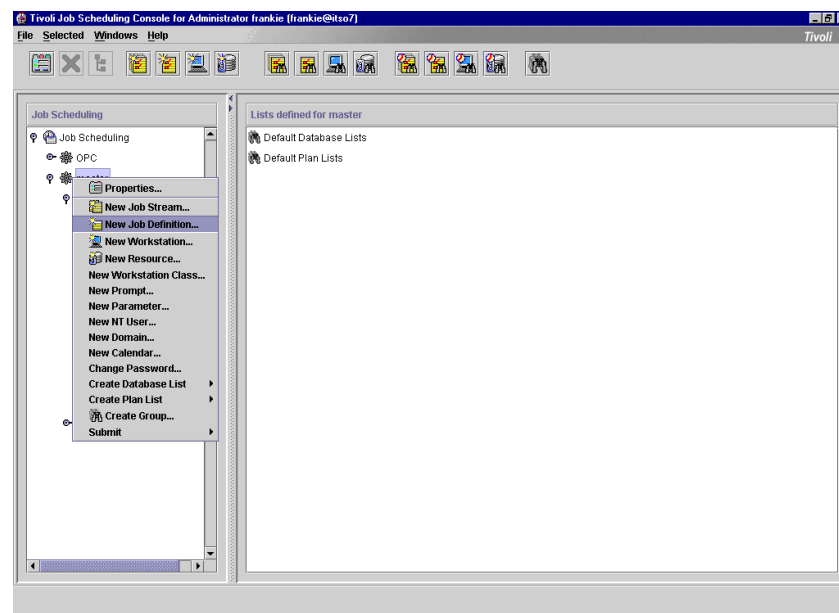

Figure 208. create new job definition
1. Create a new job definition for TWS as shown in Figure 208.